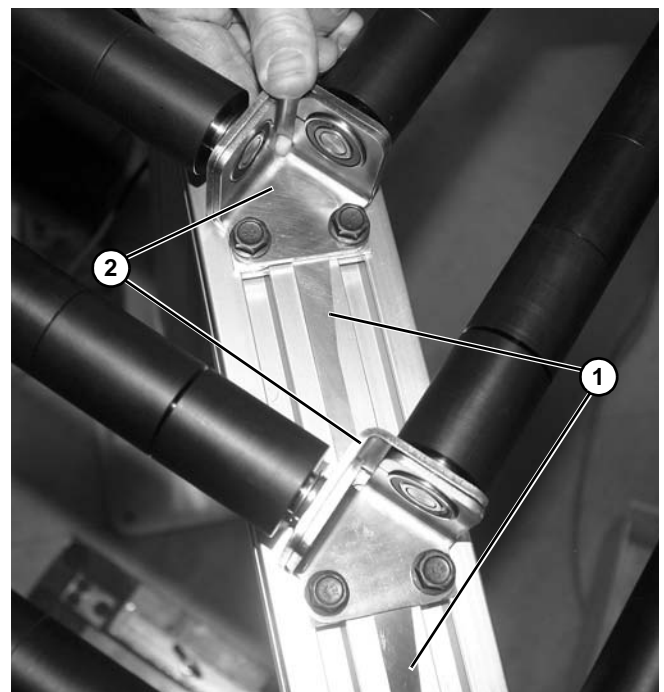

Figure 69
*When reinstalling components, make certain stand-off brackets (**Figure 69, item 1**) are fully seated onto angle brackets (**Figure 69, item 2**) before tightening bearing assembly back onto conveyor frame.*